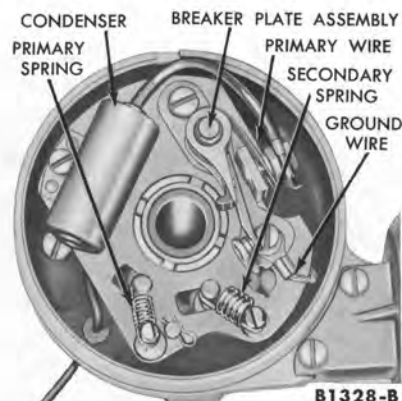

FIG. 13—Breaker Plate Installation
5. The breaker plate is shown installed in Fig. 13. Position a new breaker point assembly on the breaker plate. Be sure the pivot pin enters the hole in the breaker plate.